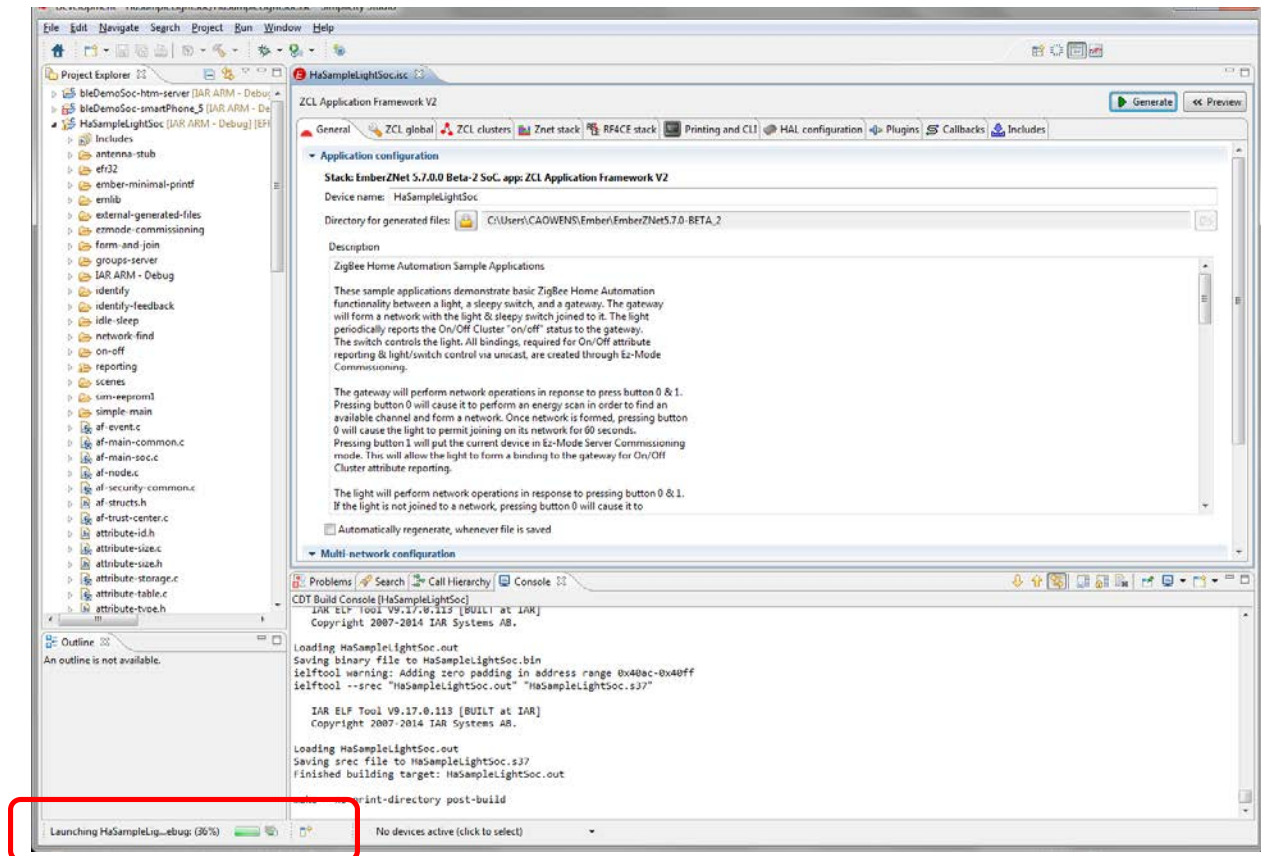

Figure 26. Compile Progress
2. Progress is displayed (Figure 26). Wait until flashing has completed and a debug window is displayed.